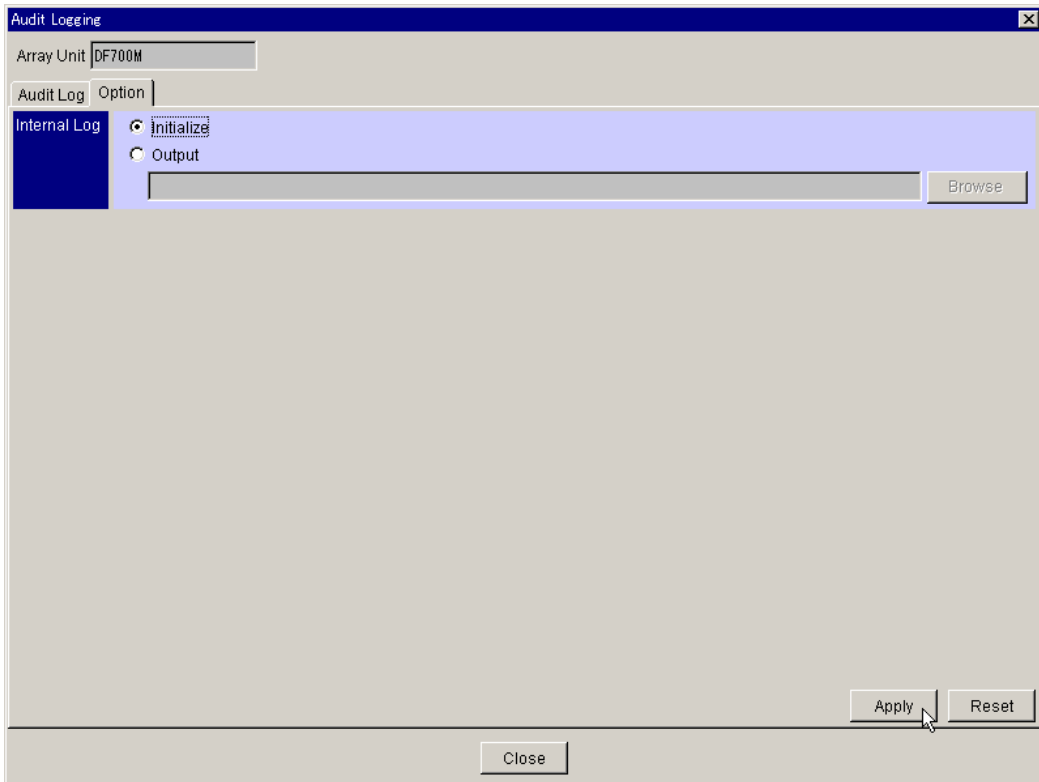

Figure 4.20 Initializing the Audit Log Internal Log
3. Select the **Option** tab (see Figure 4.20).